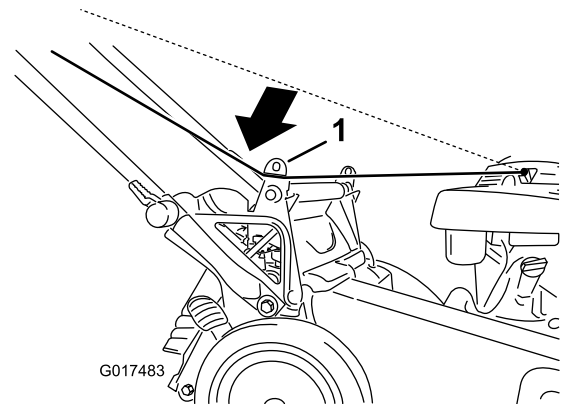

Figure 19
1. Route the starter rope around the lower rope guide (Figure 19).